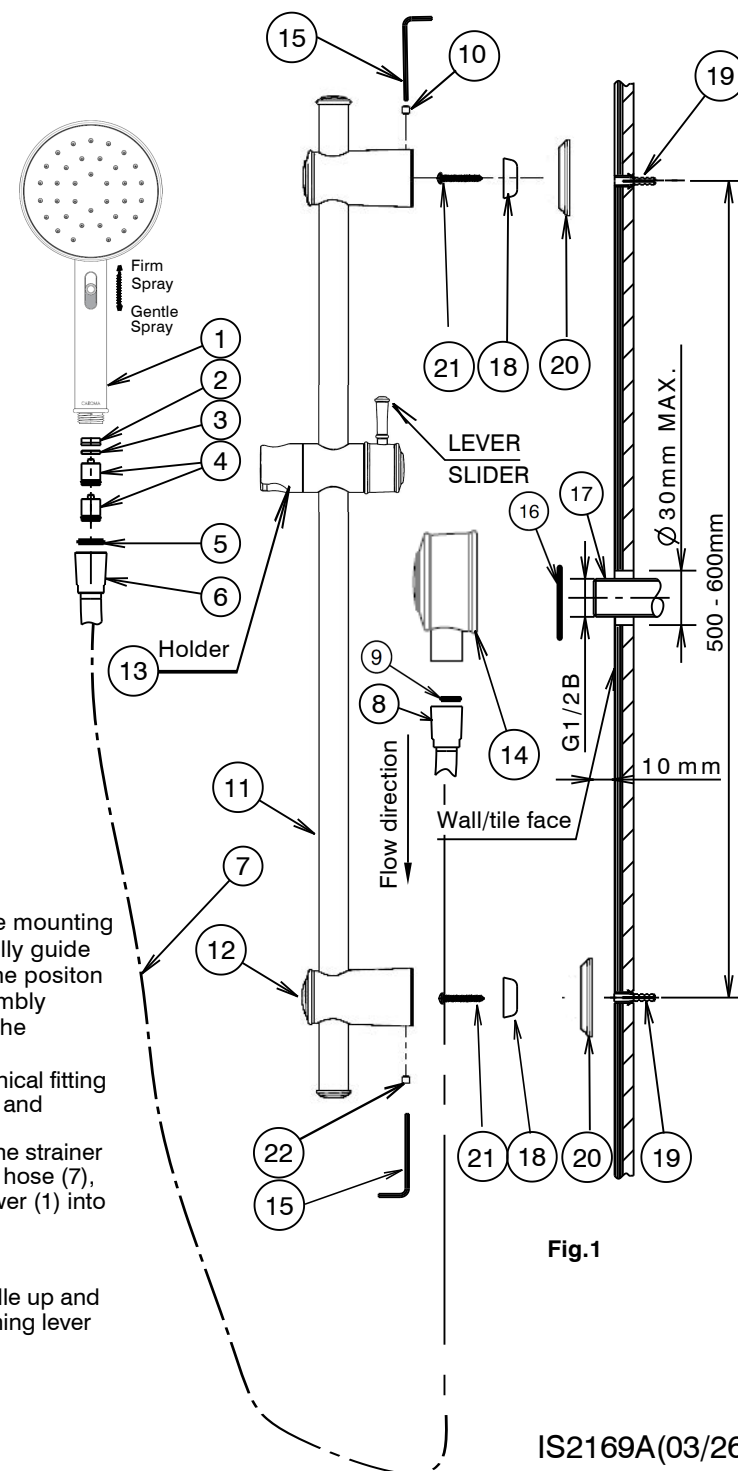

Fig.1
- 2) Ensure the 'O' Ring (16) is fitted in the groove behind the wall elbow (14), then screw the wall elbow (14) onto the threaded nipple (17) and position so that the hose (7) will hang vertically down. **DO NOT OVERTIGHTEN.**
- 3) Determine a position for the shower rail assembly ensuring it is at a suitable height for the user. (Refer to **Fig 1.**)
- ii) Insert tapered end of wall plug (19) into drilled hole and tap until flush with surface.
- ii) Insert tapered end of wall plugs (19) into the drilled holes and tap until flush with wall surface.
- 5) Pass the screw (21) through the hole in mounting flange (18) and through Wall Cover Plate (20) insert into wall plug (19), then tighten until the flange (18) & Cover Plate (20) are mounted securely against the wall/tile face.